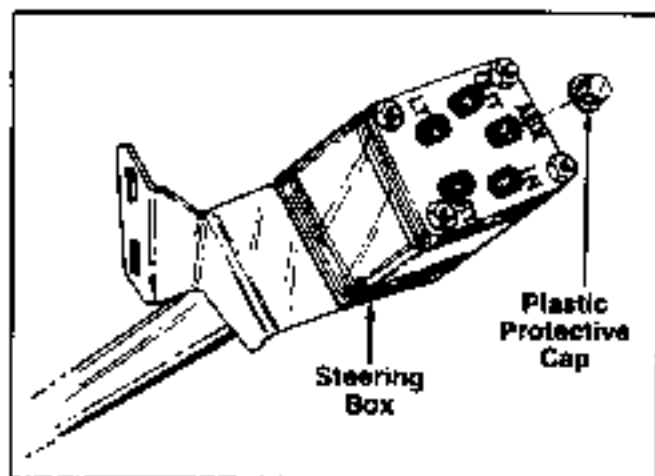

FIGURE 14.
- Remove the five plastic protective caps (used for shipping only) from the bottom of the steering column assembly. See figure 14.